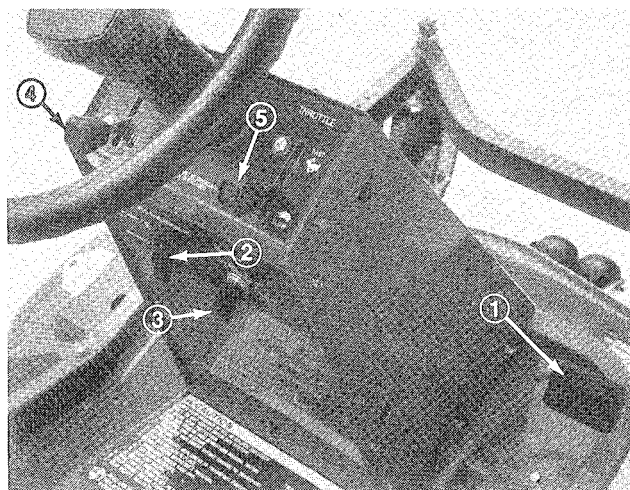

Figure 11
**Traction Pedal (Fig. 11)** — Traction pedal has two functions: one is to make the machine move forward, the other is to make it move rearward. Using the heel and toe of the right foot, depress top of pedal to move forward and bottom of pedal to move rearward. Ground speed is proportionate to how far pedal is depressed. For maximum ground
**PTO Switch (Fig. 11)** — The PTO switch has two positions: ENGAGE and DISENGAGE. Toggle switch releases blade brake and engages electromagnetic clutch to drive deck pulleys.
**Ignition Switch** (Fig. 11) — The ignition switch, which is used to start and stop the engine, has three positions: OFF, RUN and START. Rotate key clockwise — START position — to engage starter motor. Release key when engine starts. The key will move automatically to the ON position. To shut engine off, rotate key counterclockwise to the OFF position.
**Choke** (Fig. 11) — To start a cold engine, close carburetor choke by moving choke control forward to the ON position. After engine starts, regulate choke to keep engine running smoothly. As soon as possible, open the choke by pulling it rearward to the OFF position. A warm engine requires little or no choking.
**Throttle** (Fig. 11) — Throttle is used to operate engine at various speeds. Moving throttle forward increases engine speed — FAST; rearward decreases engine speed — SLOW. The throttle control, in conjunction with traction pedal, controls ground speed of the machine.